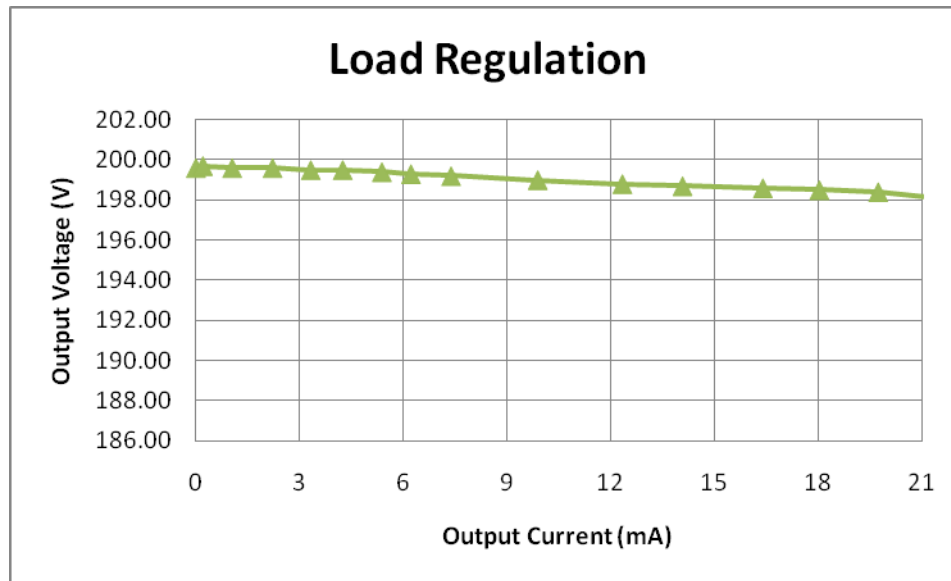

Figure 3: CS5171 12V to 200V Load Regulation
5. Set  $I_{OUT}$  to desired level 0 mA- 20 mA and measure voltage and current. The efficiency should be similar to that shown in Figure 3 and 4.